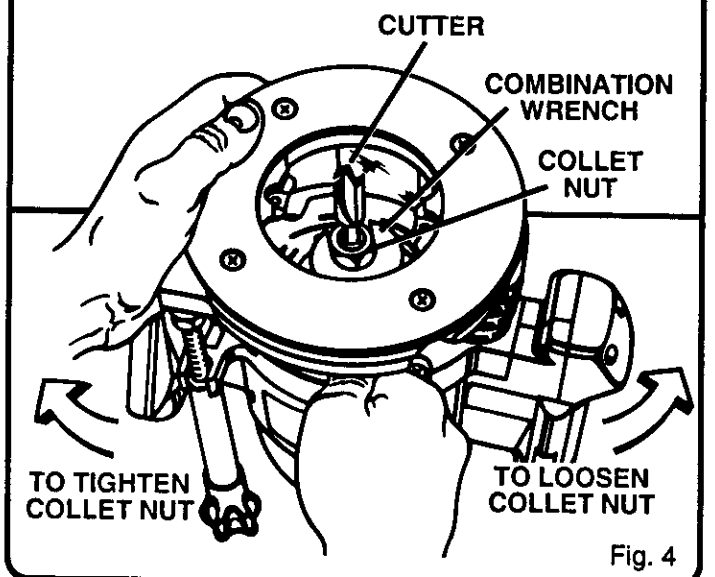

Fig. 4
4. Place 7/8 in. end of the combination wrench provided through back of router base onto collet nut and turn counterclockwise to loosen. See Figure 4.
10. Tighten the collet nut securely by turning with the wrench provided. *See Figure 4.*